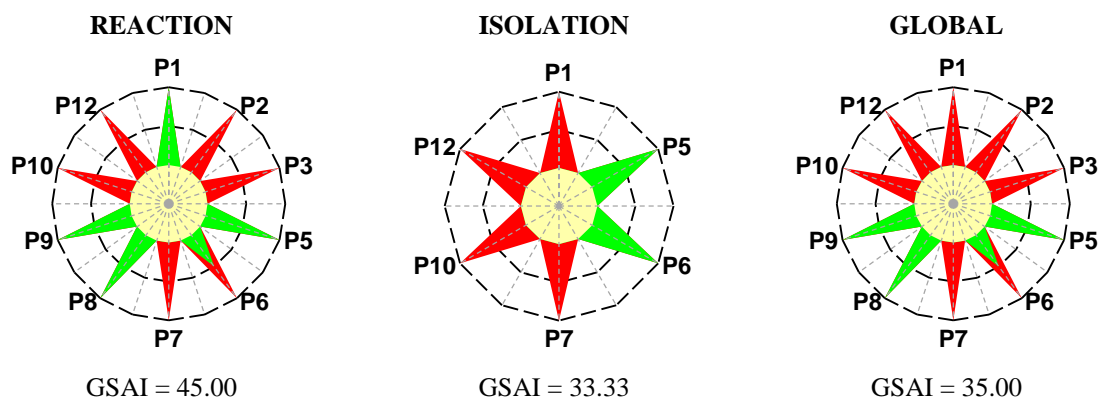

Figure 1. Greenness assessment (GS) for the synthesis of chromium(III) acetylacetonate
Greenness Assessment. The evaluation was performed using the Green Star (GS) and the results are shown in Figure 1.